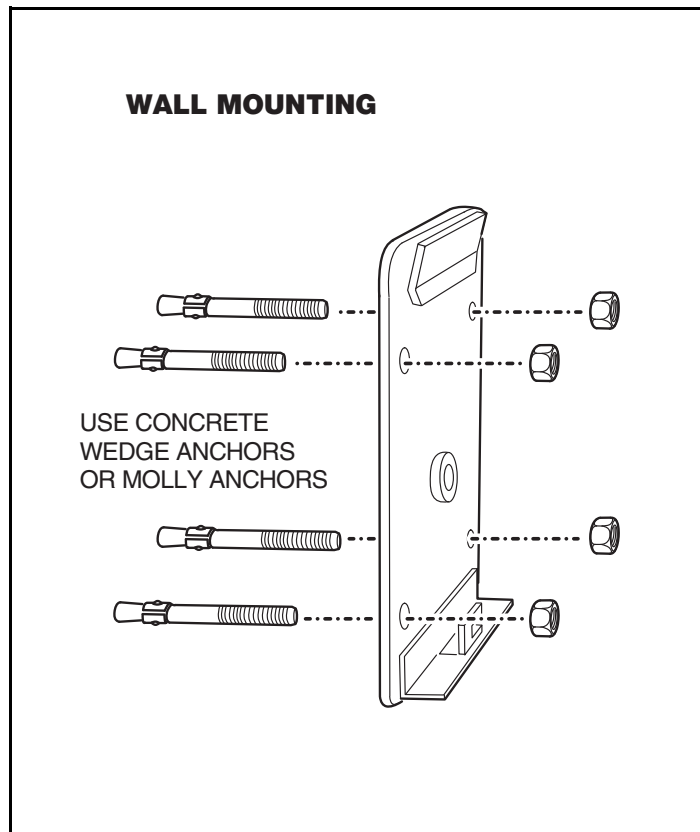

Figure 4. Wall Mounting Keypad Backplate
- ☐ When mounting the keypad to a concrete wall, use concrete wedge anchors or molly anchors (see Figure 4).